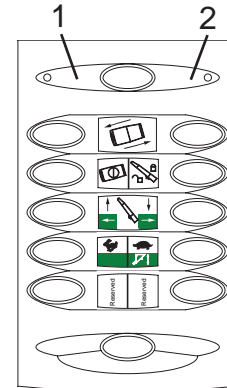

Figure 28
1. The Battery Low (Figure 28, Item 1) and Active (Figure 28, Item 2) LED indicators on the transmitter are used to indicate the status of the transmitter.